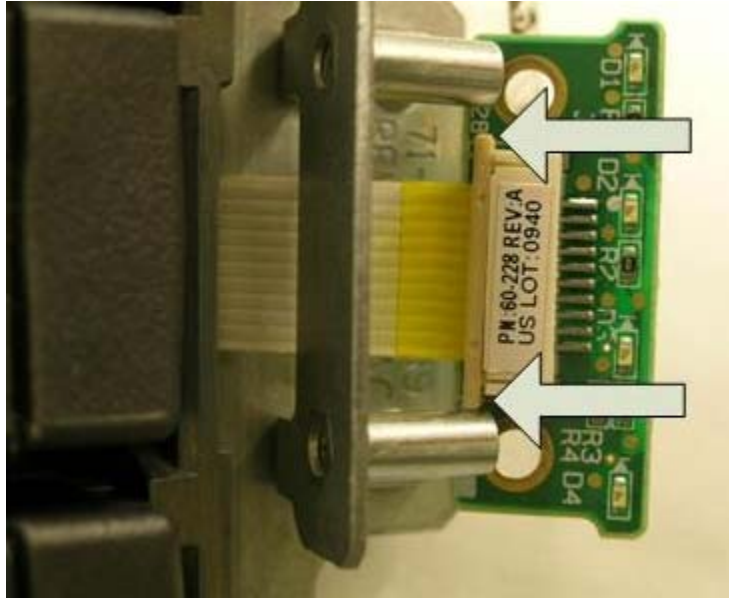

Figure 88. Opening the ribbon cable clip
4. Open the ribbon cable clip that secures the ribbon connector to the back of the LED board by pushing on the clip tabs, as shown in Figure 88 on page 132.